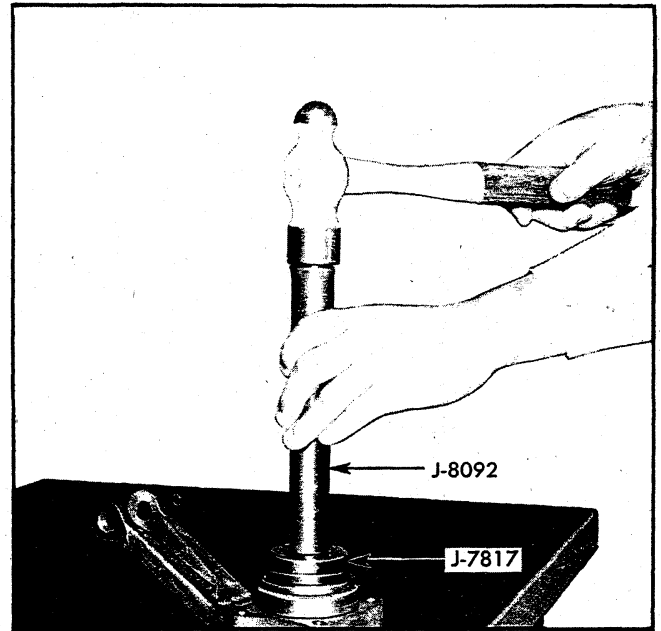

Fig. 48—Installing Spindle Bearing Cup (Corvette)
2. After removing deflector, spindle inner grease seal and inner bearing race, bearing cups may be removed while spindle support is still mounted to the torque arm, by inserting remover tool and tapping cup out. New bearing cups are installed using Tool J-7817 cup installer and handle J-8092 (fig. 48).